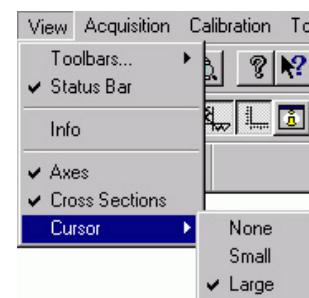

Figure 102. Selecting the Large Cursor
4. Click on the (Autoscale) button at the bottom of the image window. Then select the large cursor by clicking on Cursor on the View menu and then on Large as shown in Figure 102.